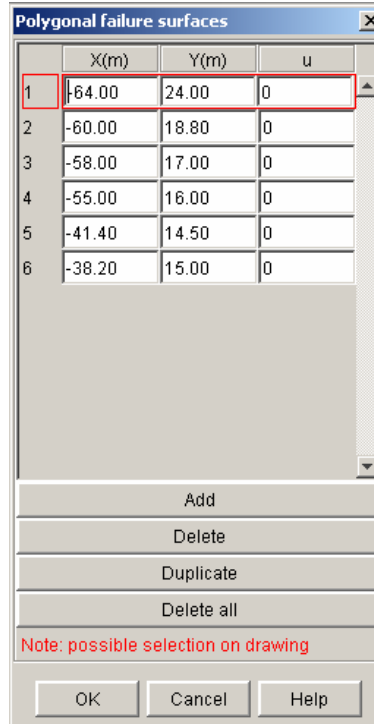
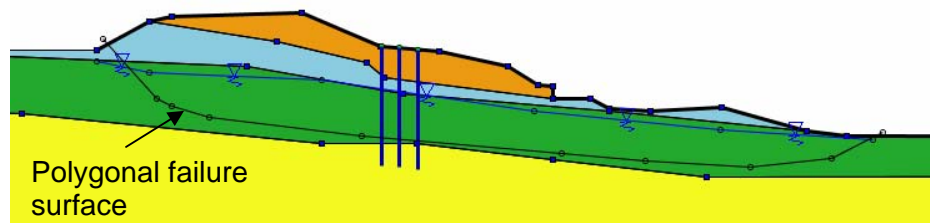

Figure 101: failure surfaces dialogue box: polygonal failure surfaces
Figure 102: example of graphical display for polygonal failure surfaces
Select "Polygonal surfaces" (Figure 102), and click on the “Define failure surface” button. The dialogue box of Figure 101 is displayed.
The polygonal failure surface is represented by a thin black line, with black points (Figure 102).
- The polygonal failure surfaces should be defined so that the first and the last points are outside the slope boundary, and so that the 2nd and the next-to-last points are below the slope boundary (Figure 102).